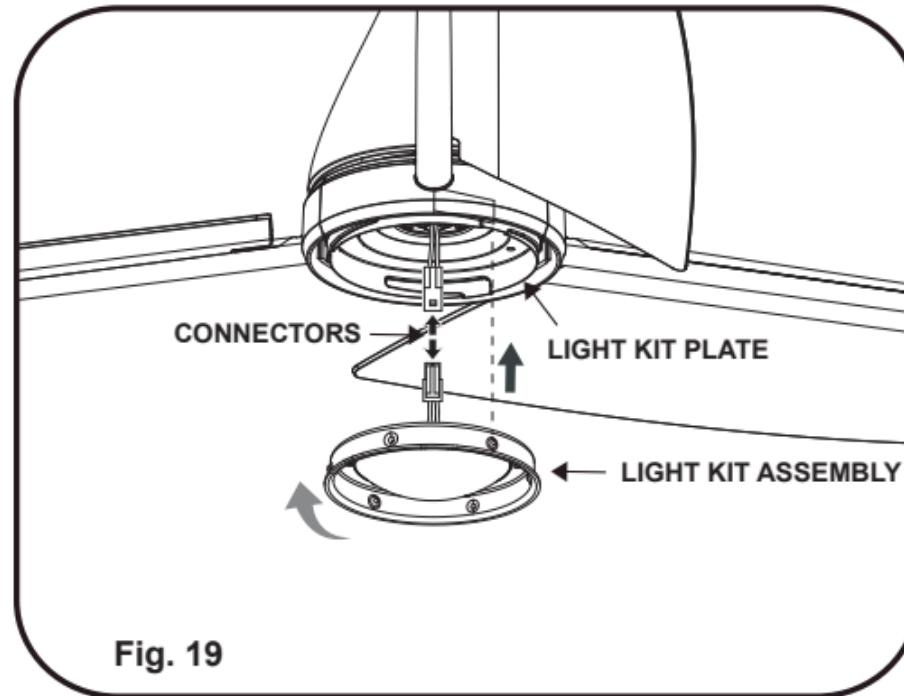

Fig. 19
Step 2. While holding the light kit assembly under your fan, firmly snap the wire connection plugs together. Align the protruding tabs on the light kit assembly with the recessed slots on the light kit plate, push upward, and twist to lock into position. (Fig. 19)